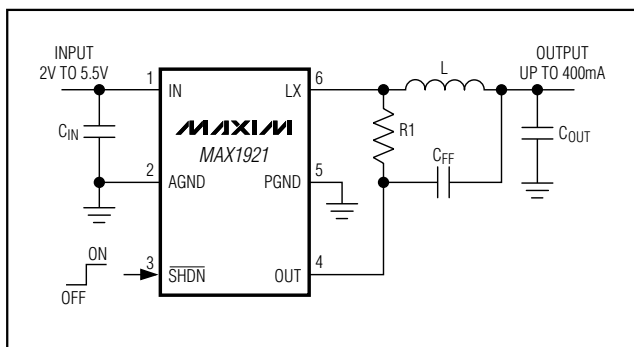
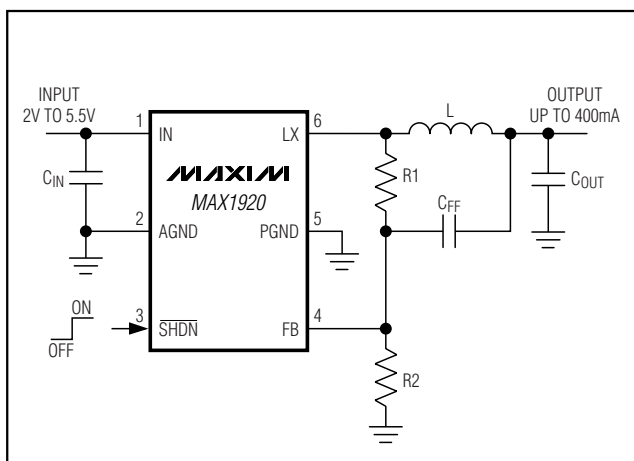

Figure 1. Typical Output Application Circuit (MAX1921)
Figure 2. Typical Application Circuit (MAX1920)
( $C_{IN} = 2.2\mu F$  ceramic, Circuit of Figure 1, components of Table 1, unless otherwise noted.)
( $C_{IN} = 2.2\mu\text{F}$  ceramic, Circuit of Figure 1, components of Table 1, unless otherwise noted.)
The MAX1920/MAX1921 are optimized for small external components and fast transient response. There are several application circuits (Figures 1 through 4) to allow the choice between ceramic or tantalum output capacitor and internally or externally set output voltages. The use of a small ceramic output capacitor is preferred for higher reliability, improved voltage-positioning transient response, reduced output ripple, and the smaller size and greater availability of ceramic versus tantalum capacitors.
Figures 1 and 2 are the application circuits that utilize small ceramic output capacitors. For stability, the circuit obtains feedback from the LX node through R1, while load transients are fed-forward through CFF. Because there is no D.C. feedback from the output, the output voltage exhibits load regulation that is equal to the output load current multiplied by the inductor's series resistance. This small amount of load regulation is similar to voltage positioning as used by high-powered microprocessor supplies intended for personal computers. For the MAX1920/MAX1921, voltage positioning eliminates or greatly reduces undershoot and overshoot during load transients (see the *Typical Operating Characteristics*), which effectively halves the peak-to-peak output voltage excursions compared to traditional step-down converters.
For convenience, Table 1 lists the recommended external component values for use with the MAX1921 application circuit of Figure 1 with various input and output voltages.
**Table 1. MAX1921 Suggested Components for Figure 1**
The output capacitor,  $C_{OUT}$ , may be either ceramic or tantalum depending upon the chosen application circuit (see Figures 1 through 4). Table 3 lists some suggested capacitor suppliers.
For ceramic  $C_{OUT}$ , use the application circuit of Figure 1 or Figure 2. Calculate the minimum capacitor value as:
When using the application circuit of Figure 1, the inductor's series resistance causes a small amount of load regulation, as desired for a voltage-positioning load transient response. Choose R1 such that VOUT is high at no load by about half of this load regulation. The simplified calculation is:
When using the application circuit of Figure 2, the inductor's series resistance causes a small amount of load regulation, as desired for a voltage-positioning load transient response. Choose R1 and R2 such that VOUT is high at no load by about half of this load regulation: